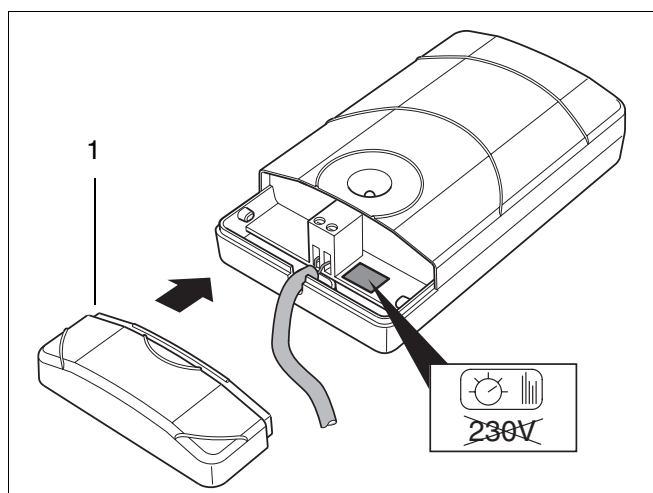

fig. 26 Connect cable
- Connect the thermostat's cable (supplied with the thermostat) to the receiver (fig. 26).
- Refit the casing (fig. 26, item 1).